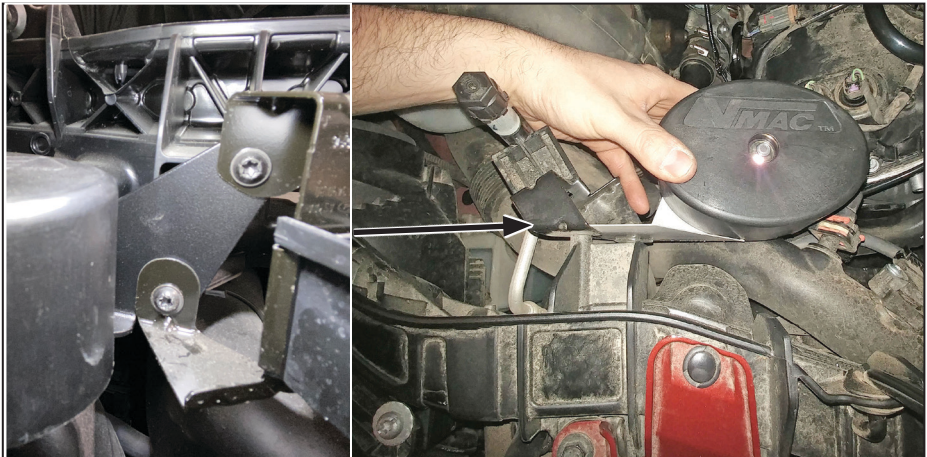

Figure 62 — Air filter
- Using the (x2) bolts securing the OEM A/C charge fitting, secure the air filter in the location shown (Figure 62).